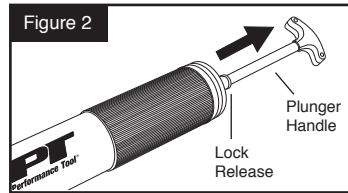

Figure 2
2. Draw handle back fully so that the plunger rod catches and locks into place. (Figure 2)